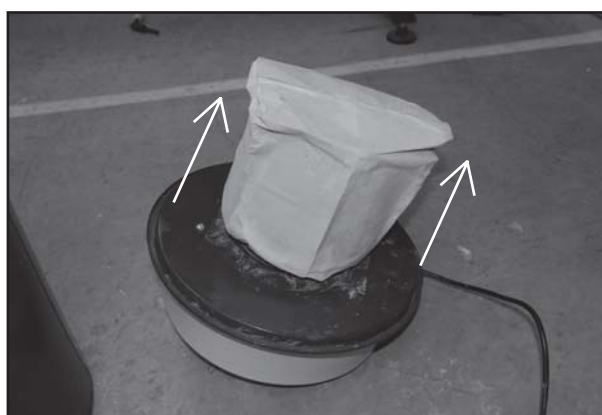

Fig.06
2. Slide the paper bag filter and cartridge filter off of the motor assembly as one unit. (Fig.06)